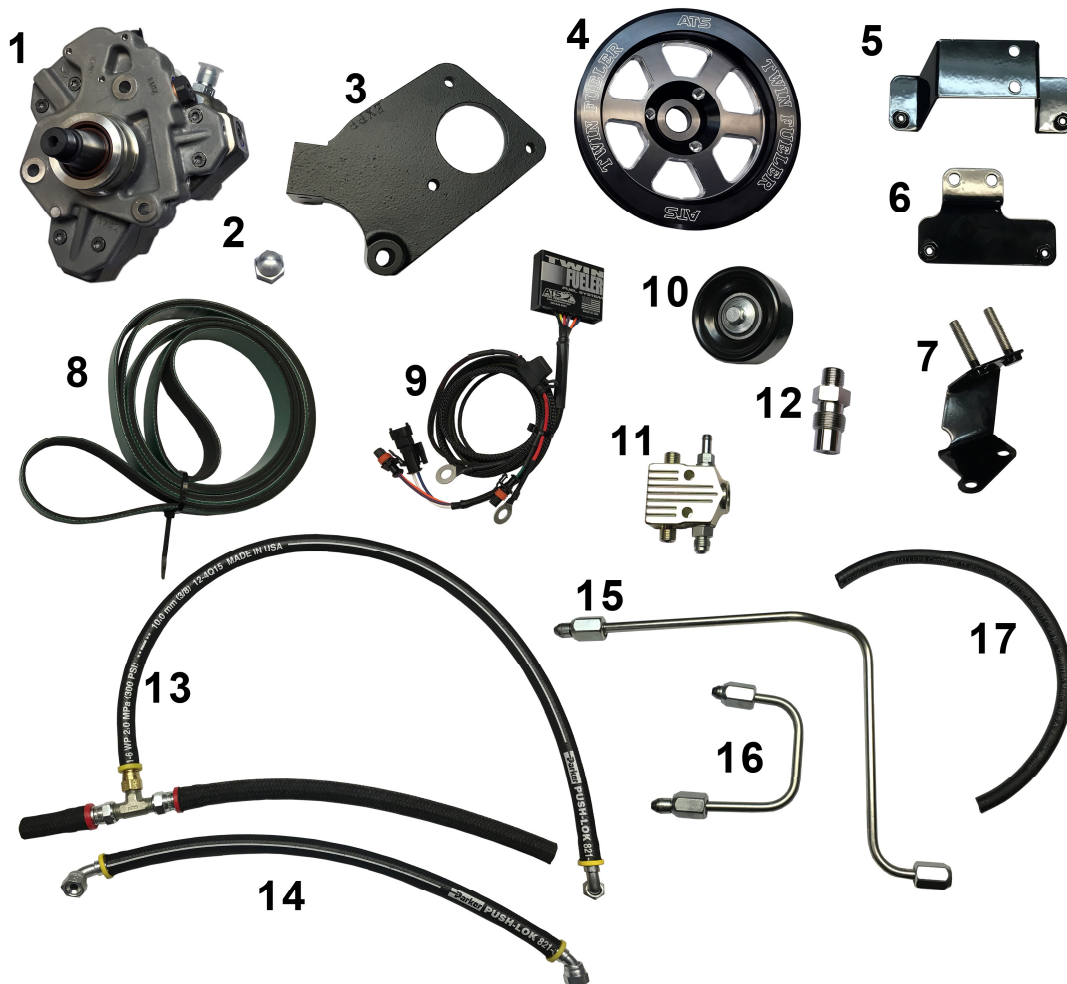
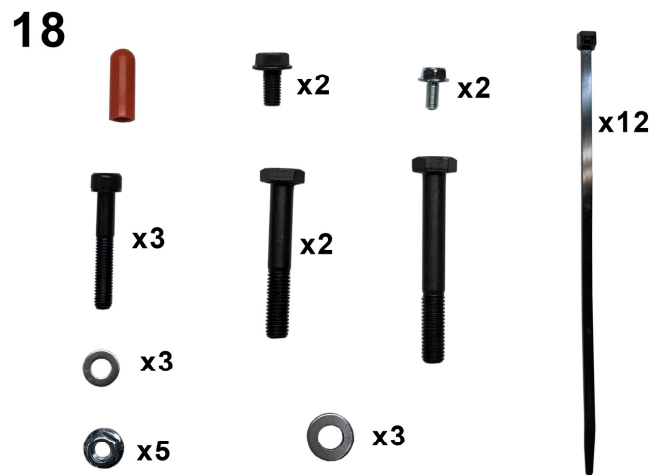

Figure 1: LLY / LBZ / LMM Twin Fueler Kit Large Parts
Figure 2 - Hardware Kit
10. Once the rail relief plug is removed, install the supplied high-pressure rail fitting (Fig. 1, #12) as shown in the picture below. Add a small amount of clean grease or engine oil to the sealing surface and torque the fitting to **64-68 ft-lbs** using a torque wrench.
11. Remove the pressure relief valve return hose. Save the clamps as they will be reused. Place the red silicone cap (Fig. 2) over the port on the fuel rail and install the 5/16" hose (Fig. 1, #17) on the return rail, reusing the factory clamp.
12. Install the junction block bracket (Fig. 1, #7) using two M8-1.25x16mm bolts supplied in the kit. Do not use the factory bolts previously removed. The factory bolts are too long and will damage the valve cover.
13. Install the pressure relief plug in the supplied junction block (Fig 1, #11). Apply a small amount of clean grease or engine oil to the seal surface and torque to **64-68 ft-lbs**. If you plan on running higher fuel pressure where the relief plug will be an issue, install an aftermarket plug.
14. Install the junction block and the short high-pressure fuel line (Fig 1, #16). Orient the junction block so the 5/16" barbed fitting faces the firewall. Connect the short high-pressure line to the rail and the junction block.
18. Install the long high-pressure line (Fig. 1, #15) from the pump to the junction block. Route the line under the crankcase vent and turbo housing following the rail to the junction block.
20. Install the 16.5" fuel return line (Fig 1, #14) from the pump return port to the open port on the junction block. Use Zip-Ties to secure the return hose to the high pressure fuel supply line, away from heat sources.
23. Locate the fuel supply hose (Fig. 1, #13). Using a factory hose clamp, attach the short 1/2" hose side to the fuel supply rail under the intake. Route the other 1/2" hose to the fuel filter housing and attach it using a factory clamp. Route the 3/8" hose over the intake and behind the alternator as shown to the CP3 pump and attach the 90° fitting to the supply port on the pump. Note: for a cleaner appearance, it is often possible to route the 3/8" section under the intake and coolant pipe. If you choose to do this, be sure to secure the hose away from sources of high heat or any moving components.
31. If the belt touches the tensioner housing, use a ½" drive ratchet to turn the tensioner out against the belt until the belt stretches enough to clear the tensioner housing. After approximately 100 miles or so the belt may stretch enough to cause the tensioner to clatter. If the belt stretches to this point, install the larger idler pulley (Fig.1, #10) provided in the kit to remove the slack in the serpentine system. Make sure the two washers are used with the large idler pulley to ensure proper belt alignment.